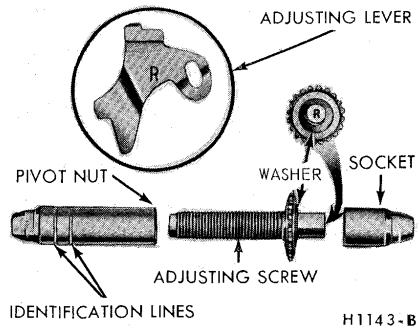

FIG. 7—Adjusting Screw and Lever Identification
Interchanging the brake shoe adjusting screw assemblies from one side of the truck to the other would cause the brake shoes to retract rather than expand each time the automatic adjusting mechanism operated. To prevent installation on the wrong side of the truck, the socket end of the adjusting screw is stamped with an R or L (Fig. 7). The adjusting pivot nuts can be distinguished by the number of lines machined around the body of the nut. Two lines indicate a right nut; one line indicates a left nut.
10. Hook the cable hook into the hole in the adjusting lever from the backing plate side. The adjusting levers are stamped with an R or L to indicate their installation on a right or left brake assembly (Fig. 7).